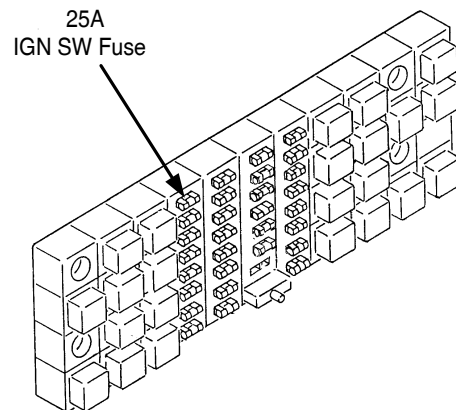

Figure 3. Relay/ Fuse Panel Under Dash
- Remove 25A IGN SW fuse (Figure 3).